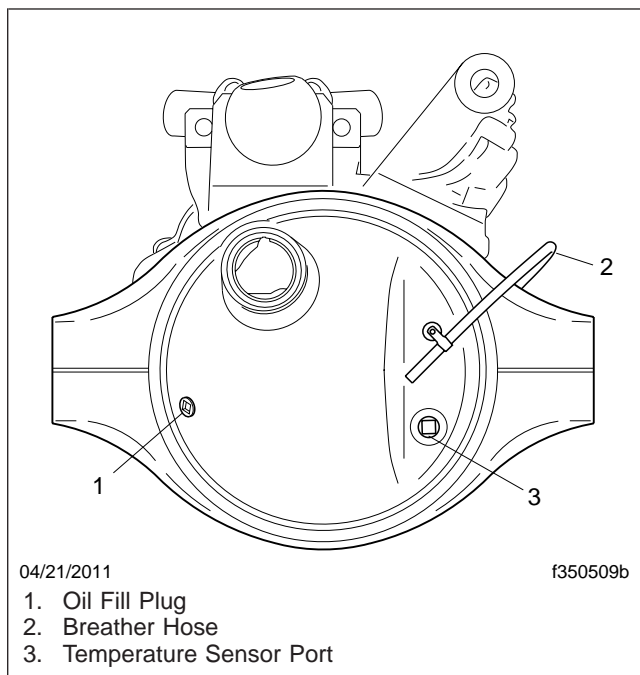
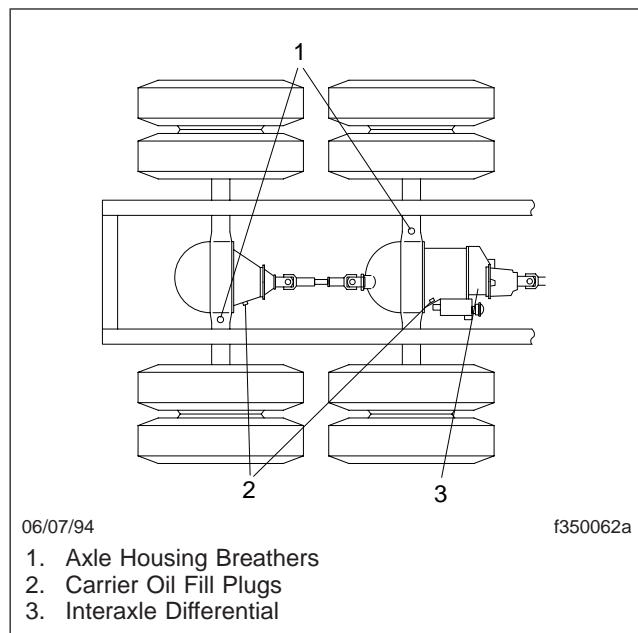
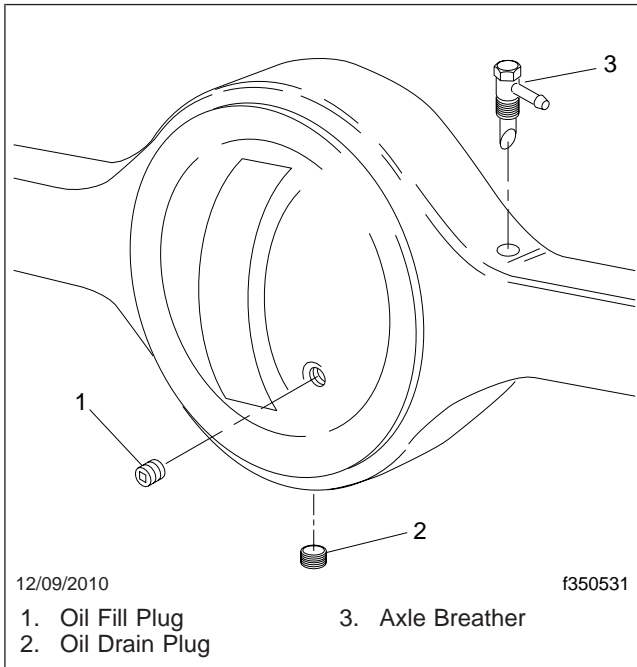

Fig. 3, Fill Hole Plug Location, Freightliner Tandem Axle (forward axle shown)
Fig. 4, Fill Hole Plug Locations, Meritor Axles
Fig. 5, Fill Hole Plug Location, Dana Spicer Axles
- With the axle level and all wheels on the ground, clean the oil fill hole plug and the area surrounding it, then remove the fill plug. For Freightliner axles, see Fig. 3; for Meritor axles, see Fig. 4; for Dana Spicer axles, see Fig. 5.